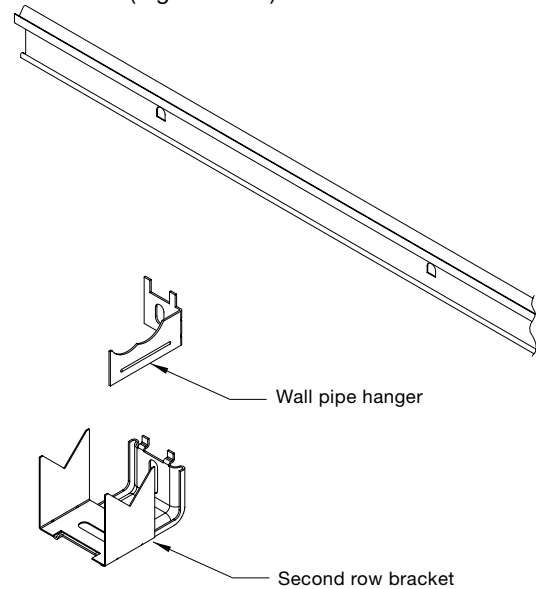

Figure VH-3
3. On enclosed units, the second row brackets and wall pipe hangers will be mounted directly to the wall. (the brackets and pipe hangers should be installed approximately 36" apart.) Install the second row brackets and wall pipe hangers to the wall using fasteners suitable for wall construction. (Figure VH-3)